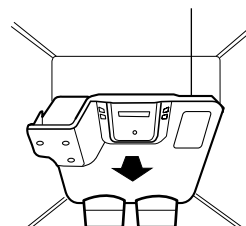

Figure 1
1. Pull out the grille assembly. (Figure 1)